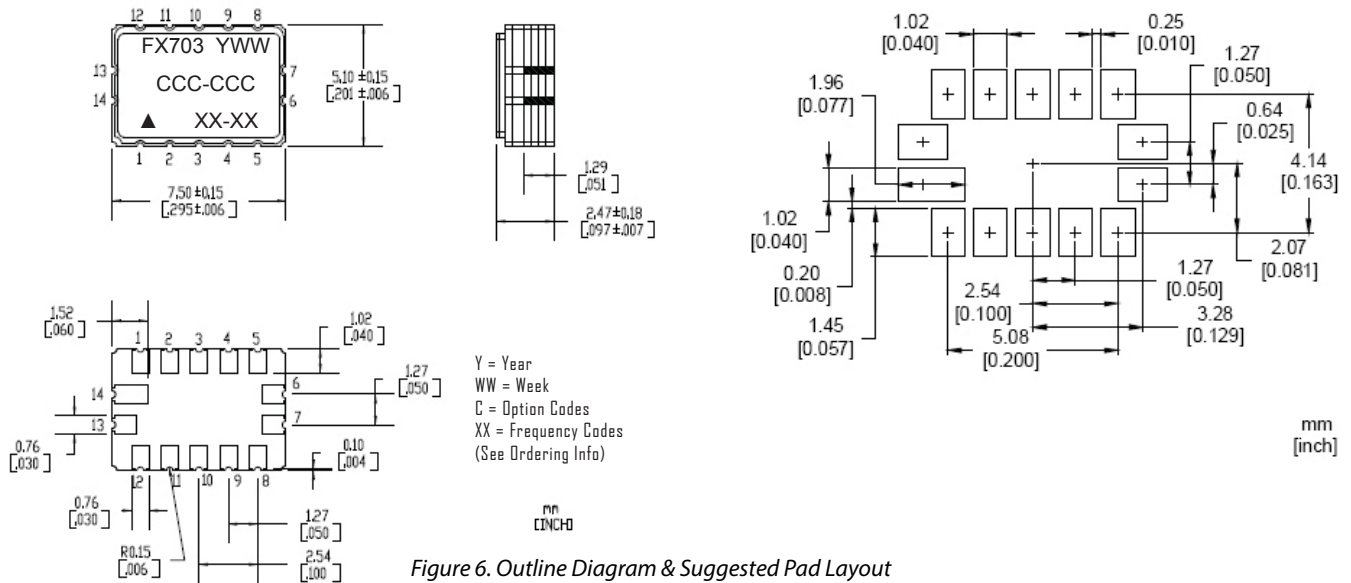

Figure 6. Outline Diagram & Suggested Pad Layout
1. It is recommended that the Lock Detect circuit shown in Figure 6 be used for smoothing the FX-703 lock detect signal. The circuit takes the lock detect output and performs a peak follower. When out of lock, the output is VCC - 1V. Under locked conditions, it is ground.